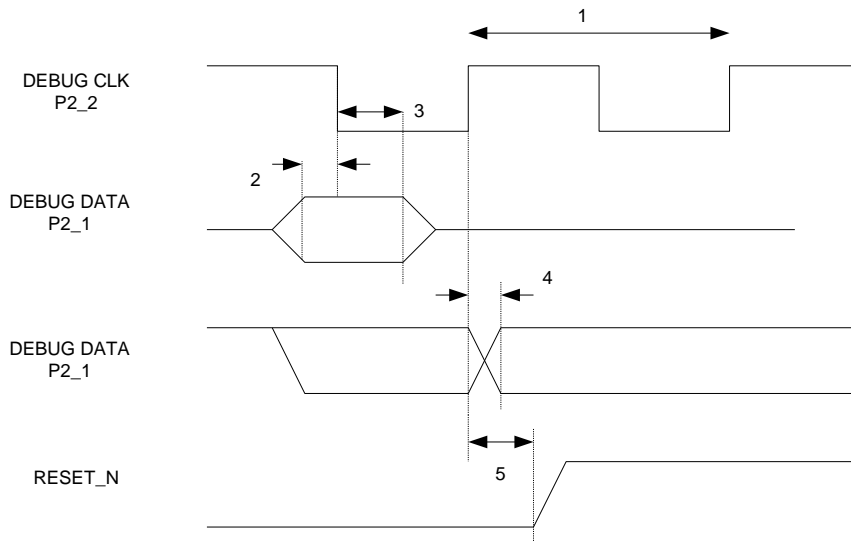

Figure 6: Debug Interface AC Characteristics
| Debug clock period                 | 125 |     |     | ns   | See item 1, Figure 6Note: CLKCON.CLKSPD must be 000 or 001 when using the debug interface |
| Debug data setup                   | 5   |     |     | ns   | See item 2, Figure 6   |
| Debug data hold                    | 5   |     |     | ns   | See item 3, Figure 6   |
| Clock to data delay                |     |     | 10  | ns   | See item 4, Figure 6, load = 10 pF   |
| RESET_N inactive after P2_2 rising | 10  |     |     | ns   | See item 5, Figure 6   |